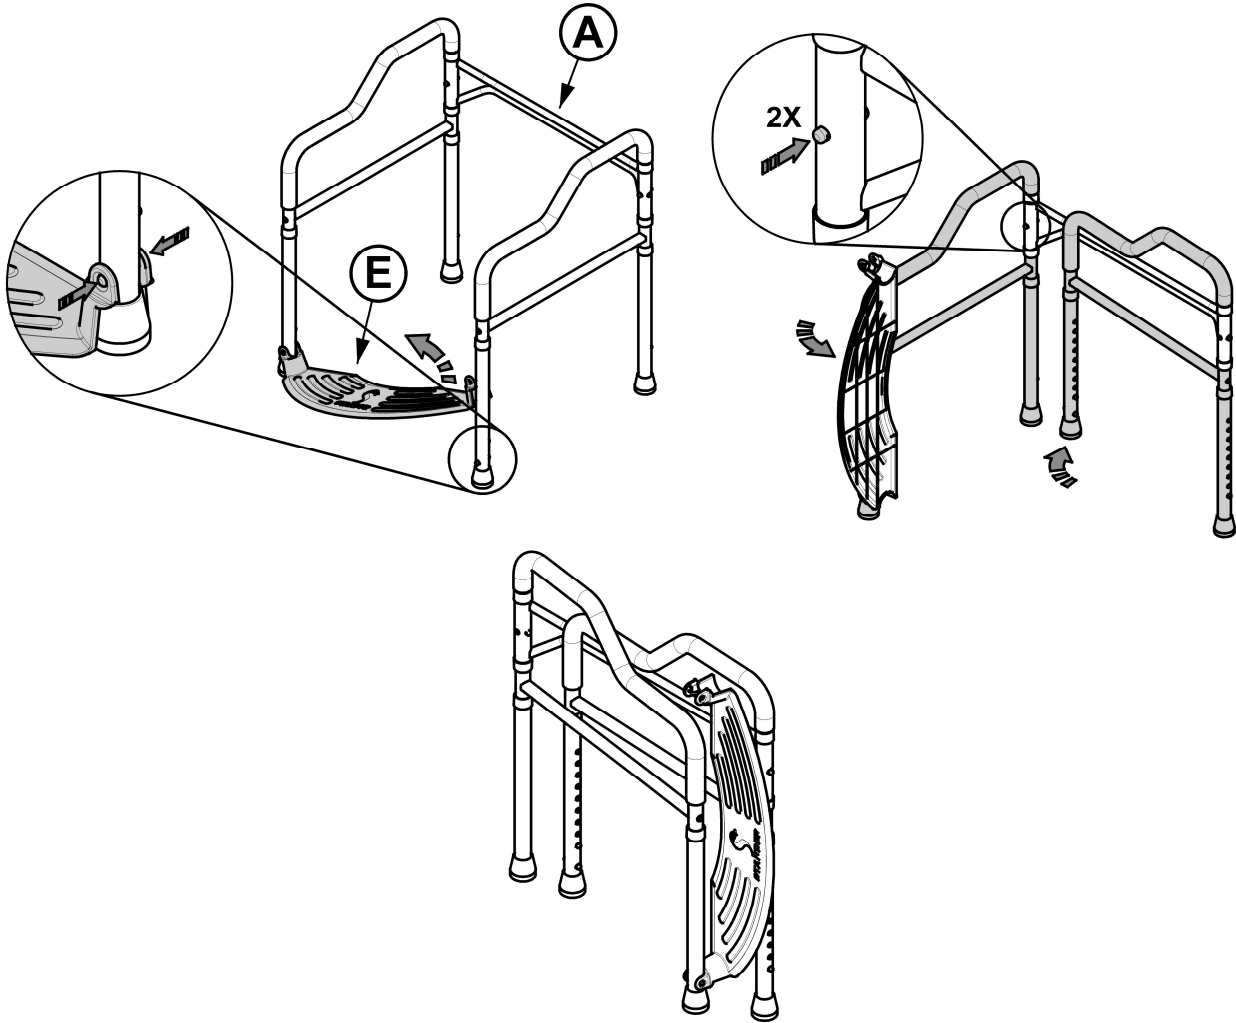

FIGURE 6
6. Depress double-headed spring pin on either side of footplate (E) and hinge up as shown in *FIGURE 6*. Then depress both front spring pins on (A) to fold frame sides inward.